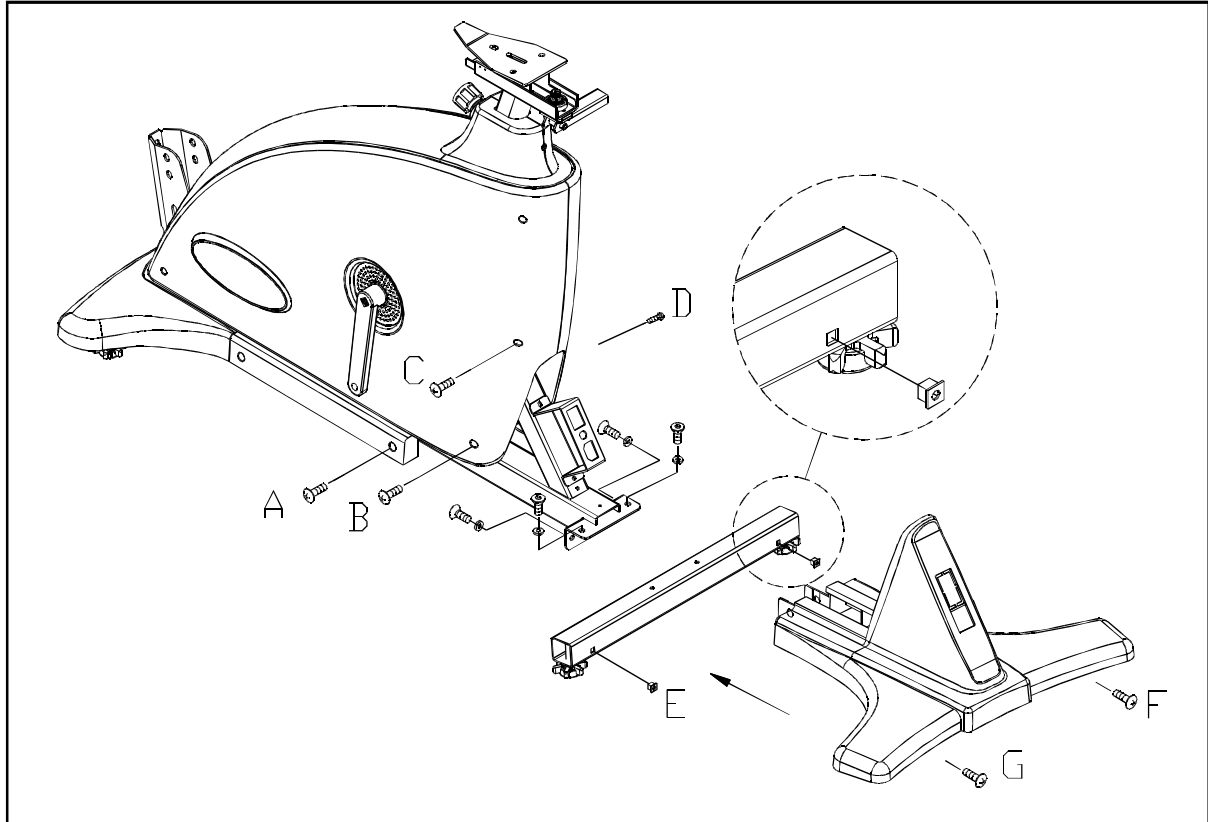

Fig.1
STEP 1. For the following, please refer to Figure 1. ① Secure the rear support bar to the unit frame. ② Insert screw sockets E into the holes. ③ Loosen screws A, B, C, D to make room for the rear support cover. Slide the rear support cover into place. Then secure those screws.